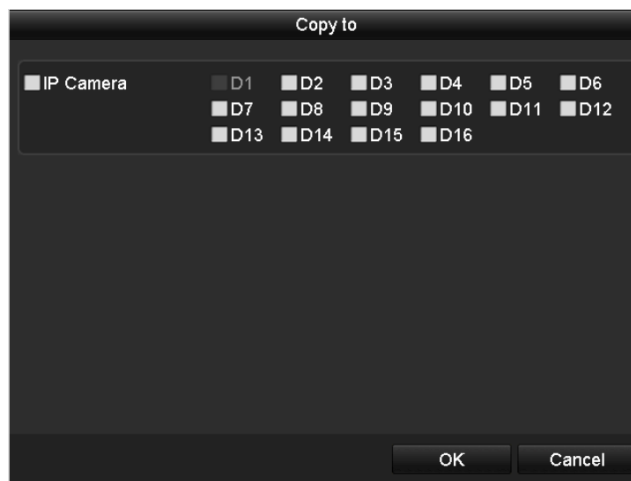

Figure 249 Copy Settings to Other Camera(s)
5. Copy the quota settings of the current camera to other cameras if required. Click the Copy button to enter the Copy Camera menu, as shown in Figure 249.